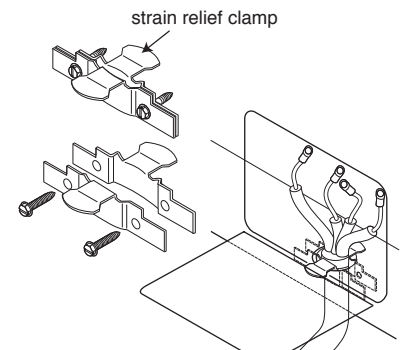

Figure 8
- 1 Follow the power supply cord kit manufacturer's Installation Instructions and install the strain relief clamp on the cord. See Figure 8.